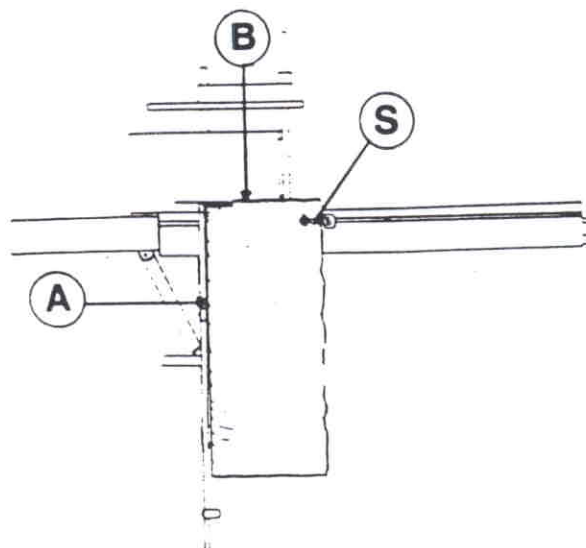

Fig. 42
- Turn panel 90° so that the trimmed side (A fig. 42) rests against the aluminium fence, then carry out cut (B).